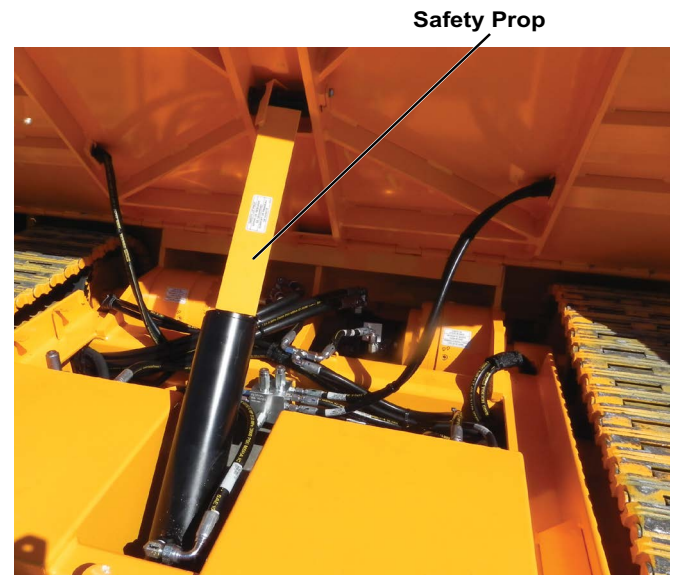

Figure 5-3. Safety Prop
4. Raise hopper and clean mix off all flat surfaces. This operation is quick and simple when the paver is still hot. Immediately after raising hopper, place the safety prop (Figure 5-3) in proper position.
1. Check oil level in drive torque hubs. The torque hub is positioned so the center plug (**Figure 5-4, 1**) is at the 12 o'clock position. Remove the plug either at the 3 or 9 o'clock position (**Figure 5-3, 2**). If oil comes out, no oil is needed. Insert plug and tighten. If oil does not come out, remove the plug at the 12 o'clock position and fill torque hub with 90 wt. gear oil until oil starts to appear at the other hole. Replace both plugs and repeat process on other torque hub.